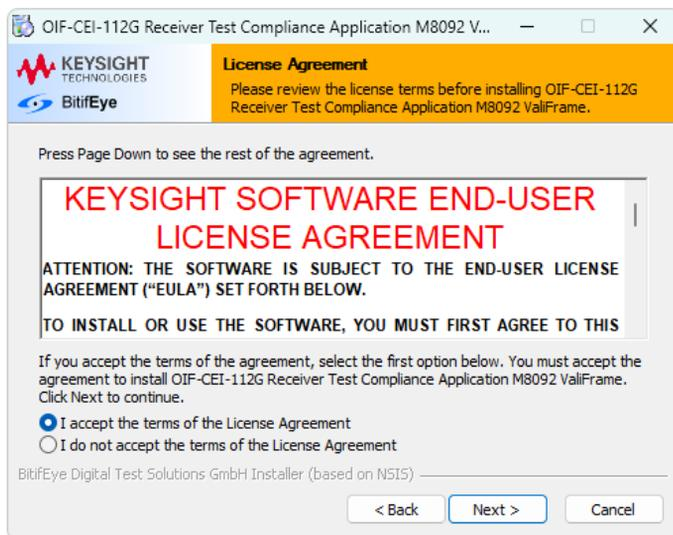

Figure 2 License Agreement window
- 3 Select **I accept...** to agree to the license agreement and to enable the **Next** button (Figure 2).